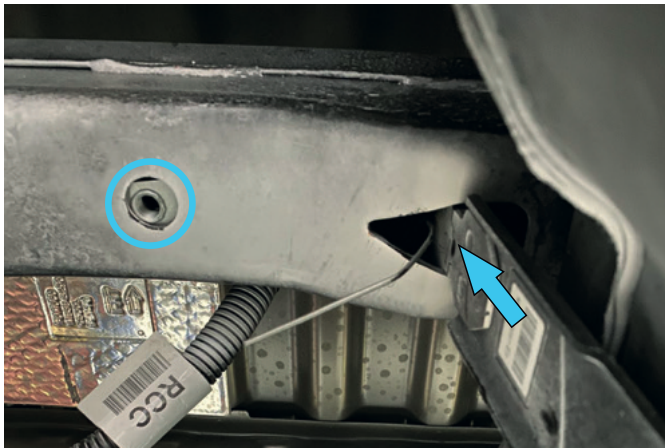

Fig. 5
3. Install M10x65 insert nut with wire (item C) as shown in fig.5.